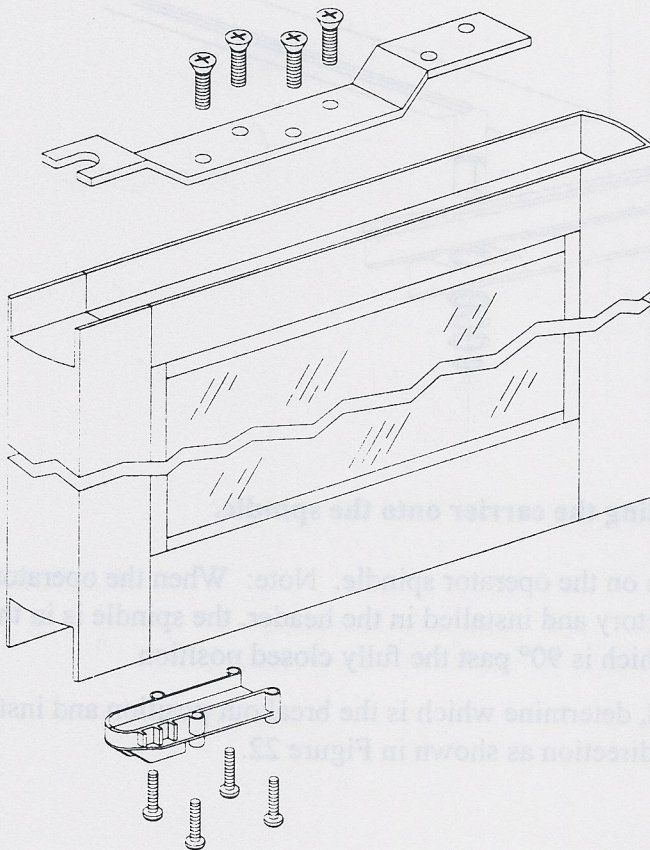

Figure 19: Installing the top arm and bottom pivot receiver on the door.
2. As shown in Figure 19, install the arm attachment bar #10301-000 with four (4) ¼-20 FHMS and the bottom pivot assembly #10140-000 with four (4) #10 pan-head screws.